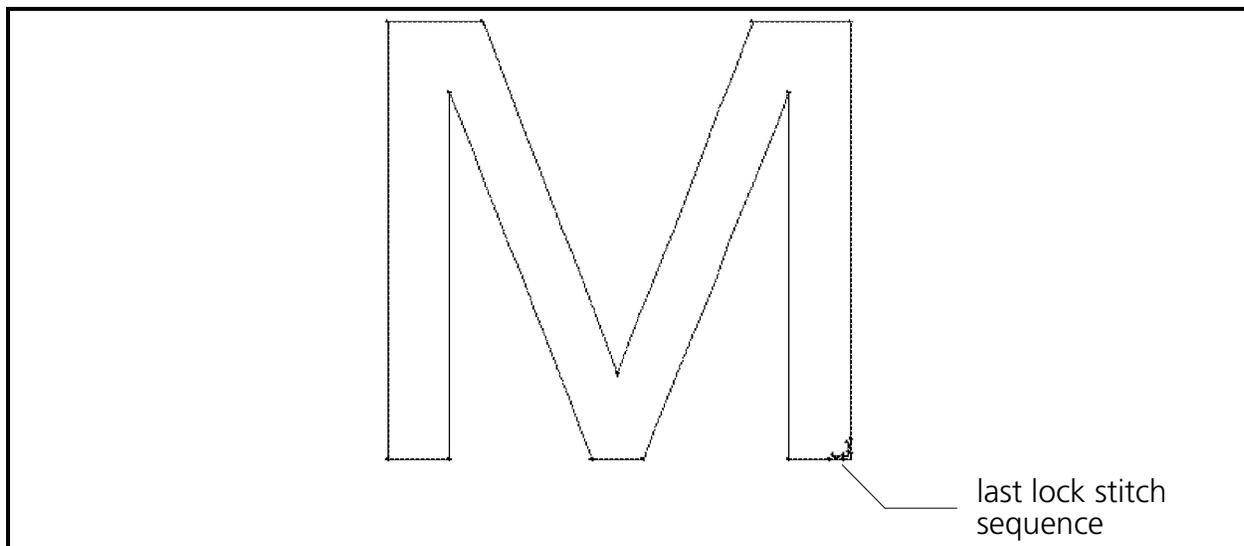

Figure 6-32
6. After placing the last outlining Mk1 put a series of 3 or 4 lock stitches along the bottom of the right leg of the letter **M** as you did starting the **M**. Have the lock stitches run horizontally along the bottom as not to be directly on the first set of lock stitches that ran vertically from the corner (see Figure 6-32). The last Mk1 should end at or near the corner.